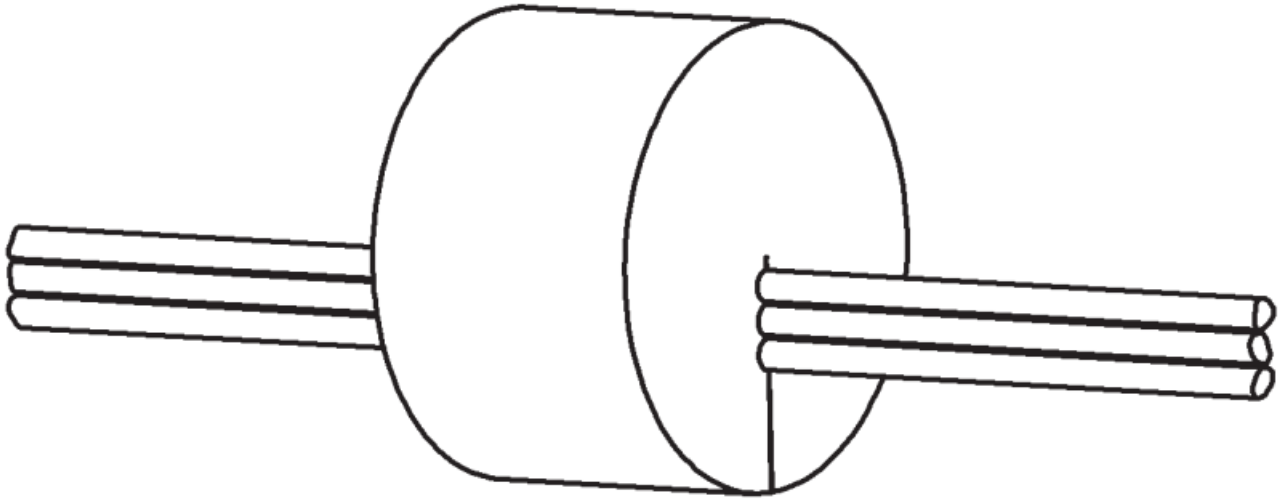

Fig. 9:
- Conduit – Included with the VOC sensor is a foam plug to seal the ½ inch (13mm) EMT. Place the wires into the plug as shown in Fig. 9 and then insert the plug into the conduit sealing the conduit.